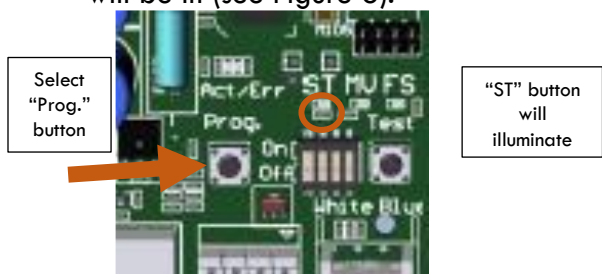

Figure 8
1. Push the “Prog.” button **once**. The “ST” LED light will be lit (see Figure 8).